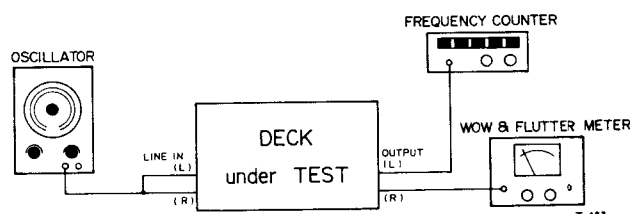

Fig. 5-7 Tape Speed/Wow & Flutter Measurement Setup
1. Connect test equipment to the deck, except the AF oscillator, as shown in Fig. 5-7.
1. Connect test equipment to the deck as shown in Fig. 5-7.